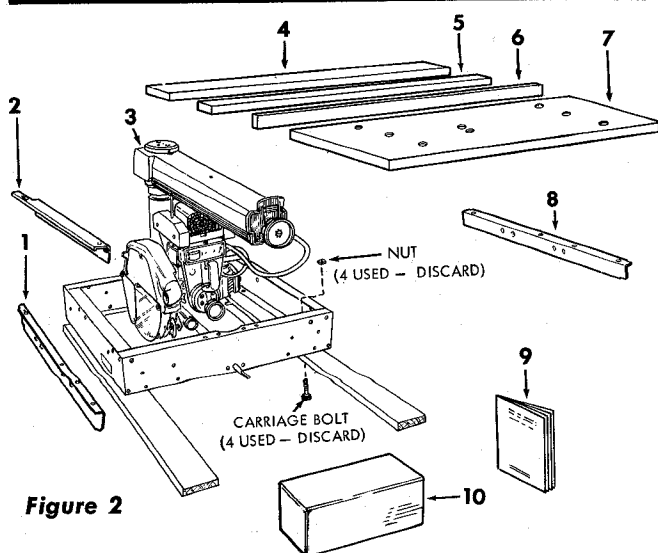

Figure 2
- b. This Saw is shipped complete in one carton. However, in order to prevent damage during shipment and facilitate packaging, certain items are removed at the factory and must be reassembled when received by the purchaser. These "loose" parts are shown in figure 2 and listed in the "Table of Loose Parts" below.
- c. Separate all "loose" parts from packaging materials and check each item with figure 2 and "Table of Loose Parts", making sure all items are accounted for before discarding any packing material.